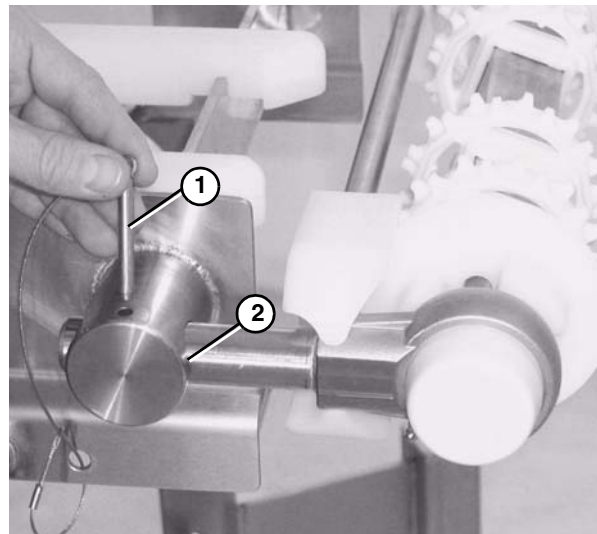

Figure 55
1. Remove both pull pins (Figure 55, item 1) on the tension end of the conveyor.
6. Extend the idler tail to the next groove (Figure 55, item 2) on the bearing shaft.
1. Remove the pull pins from take up blocks (**Figure 55**).